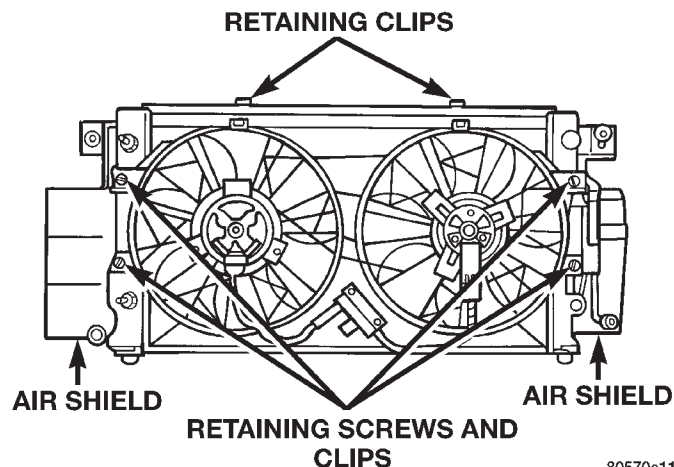
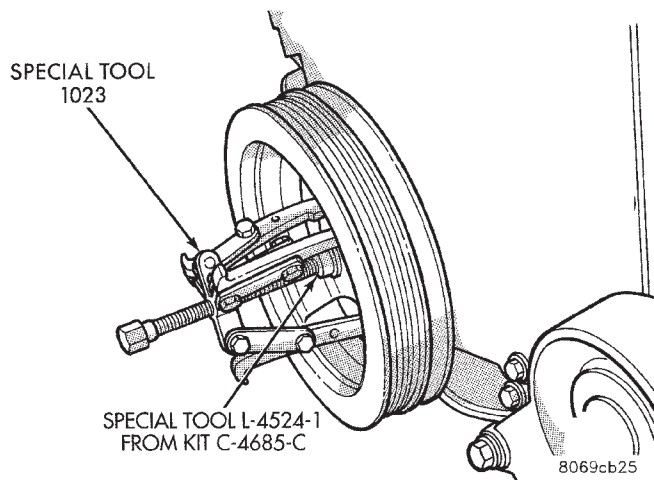
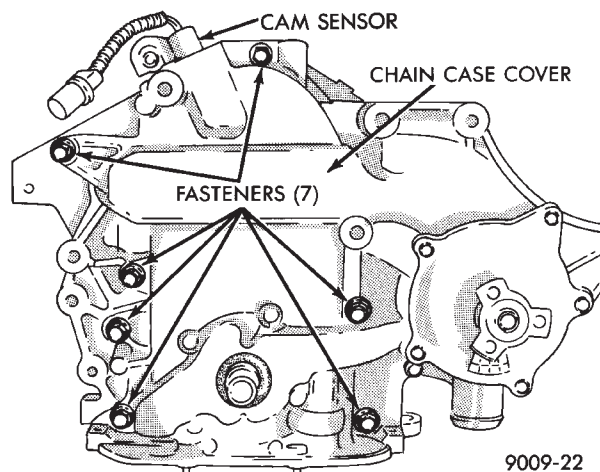
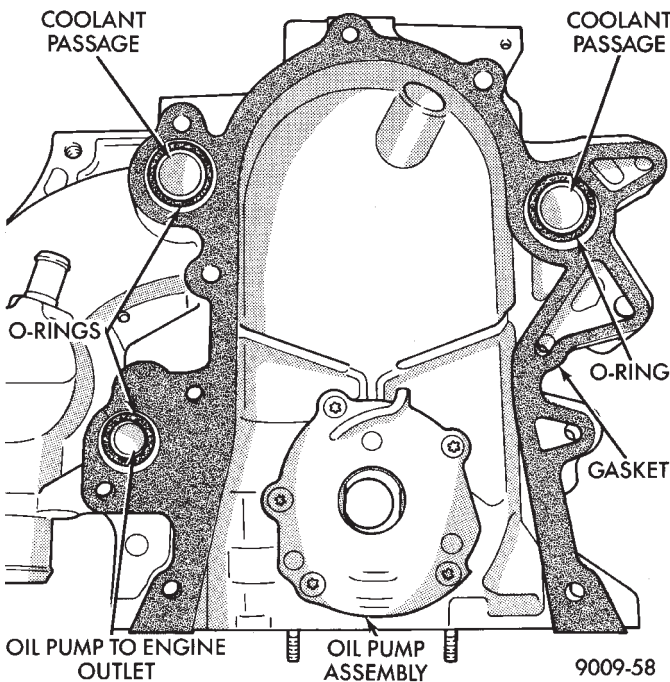

Fig. 41 Fan Module
Fig. 42 Crankshaft Damper—Removal
Fig. 43 Timing Chain Case Cover
Fig. 44 Timing Chain Case Cover Gaskets and O-Rings
- (1) Disconnect battery.
- (2) Raise vehicle on hoist. Drain engine oil.
- (3) Disconnect sway bar and place it to the rear of the vehicle to gain access to the oil pan.
- (4) Remove the transmission supports brackets and inspection cover.
- (5) Remove oil pan and oil pump pick-up.
- (6) Remove drive belt. Refer to Group 7, Cooling System for procedure.
- (7) Remove power steering pump and set aside.
- (8) Remove fan module (Fig. 41).
- (9) Use special tool C-3281 to hold crankshaft damper while removing center bolt.
- (10) Remove crankshaft damper see (Fig. 42).
- (11) Remove tensioner pulley bracket.
- (12) Remove cam sensor from chain case cover (Fig. 43).
- (13) Remove chain case cover (Fig. 43).
- (2) Use a new cover gasket, and O-rings. (Fig. 44).
- (3) Rotate crankshaft so that the oil pump drive flats are vertical.
- (4) Position oil pump inner rotor so the mating flats are in the same position as the crankshaft drive flats (Fig. 44). Do not install front crankshaft seal into timing chain cover at this time.
- (5) Install cover onto crankshaft. Make sure the oil pump is engaged on the crankshaft correctly or severe damage may result.
- (6) Install chain case cover bolts (Fig. 43). Snug the two bottom screws and the top center screw. Ensure the cover is seated to the block then torque all other screws to 27 N·m (20 ft. lbs.).